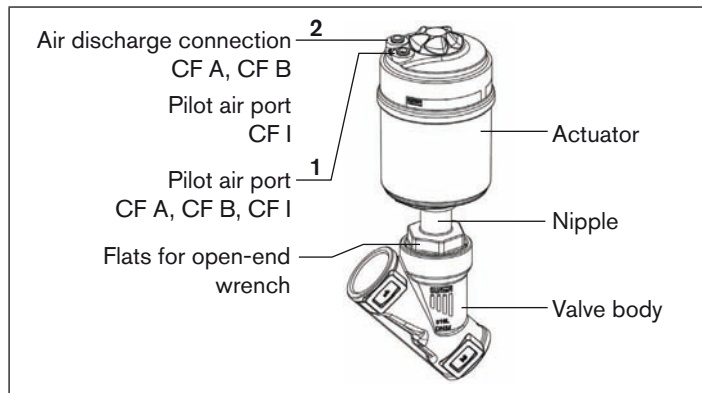

Fig. 22: Designation parts
- **Control function A and I** Pressurize pilot air port **1** with 6 – 8 bar. (see “Fig. 22: Designation parts”).
- **Control function B** Pressurize pilot air port **2** with 6 – 8 bar. (see “Fig. 22: Designation parts”).